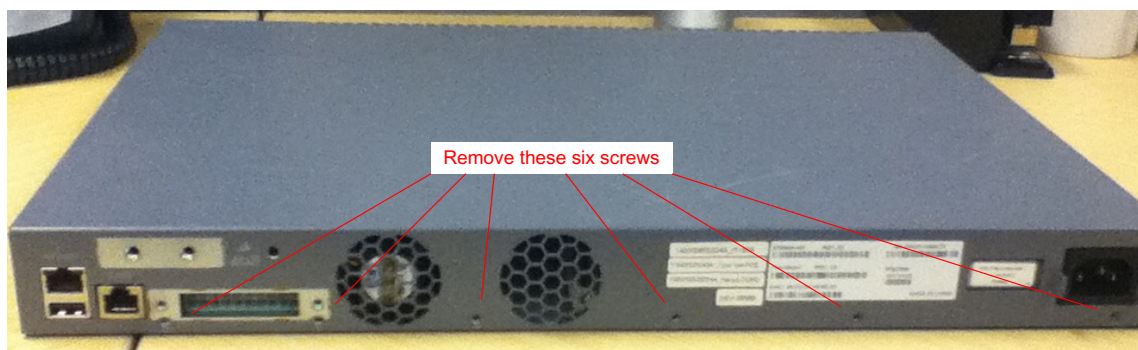

Figure 3-4: EX3300 Rear screws
| Figure 3-4: EX3300 Rear screws | 4 |
4. Remove six screws from rear of chassis (figure 3-4)